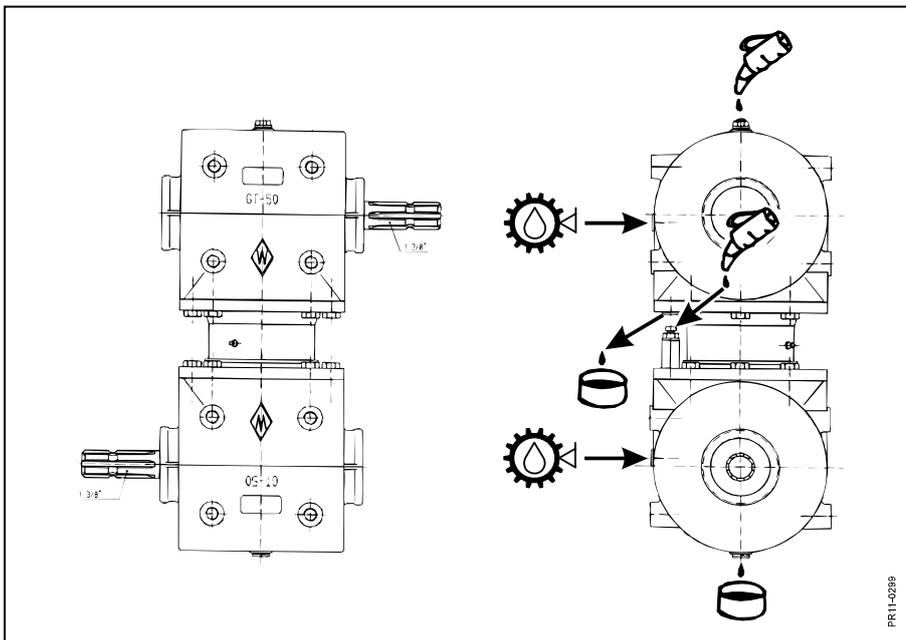

Fig. 4-9
- Fig. 4-9** Oil content:  2,0 l in the upper part